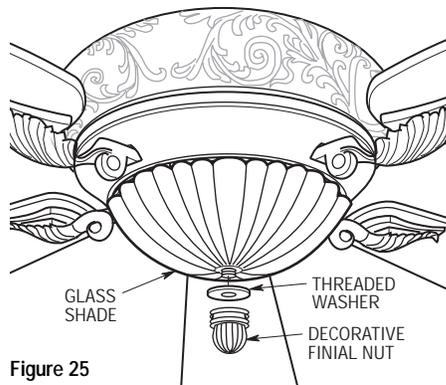

Figure 25
- 3. Slide the glass shade onto the threaded stud until the glass rest against the light fitter assembly (Figure 25).